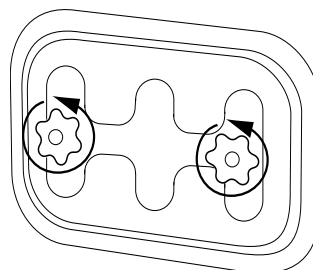

Fig. 1
2. Unscrew the hand knobs until the end of the hand knob screws (Fig. 1).